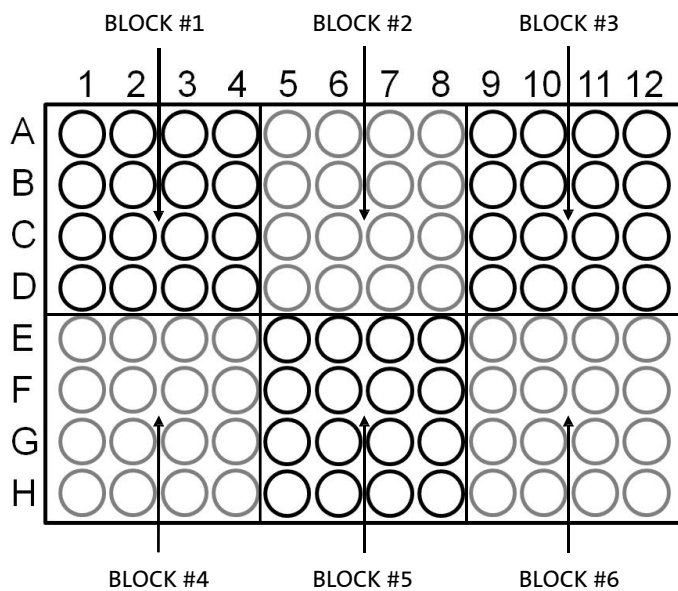

Figure 10. Block layout of 96-well model.
2. The temperatures of all BLOCK offset are based on BLOCK #1. If you press F2:AUTO to set gradient temperature, each BLOCK will automatically add 4°C based on the preceding BLOCK. Prior to pressing F3:AVG. users need to enter BLOCK #6 setting, and the screen will show the calculated temperature gradient from BLOCK #1 to BLOCK #6 as show in Figure 10. This reflects the variation of the temperature from BLOCK #1 (coolest) to BLOCK #6 (hottest).